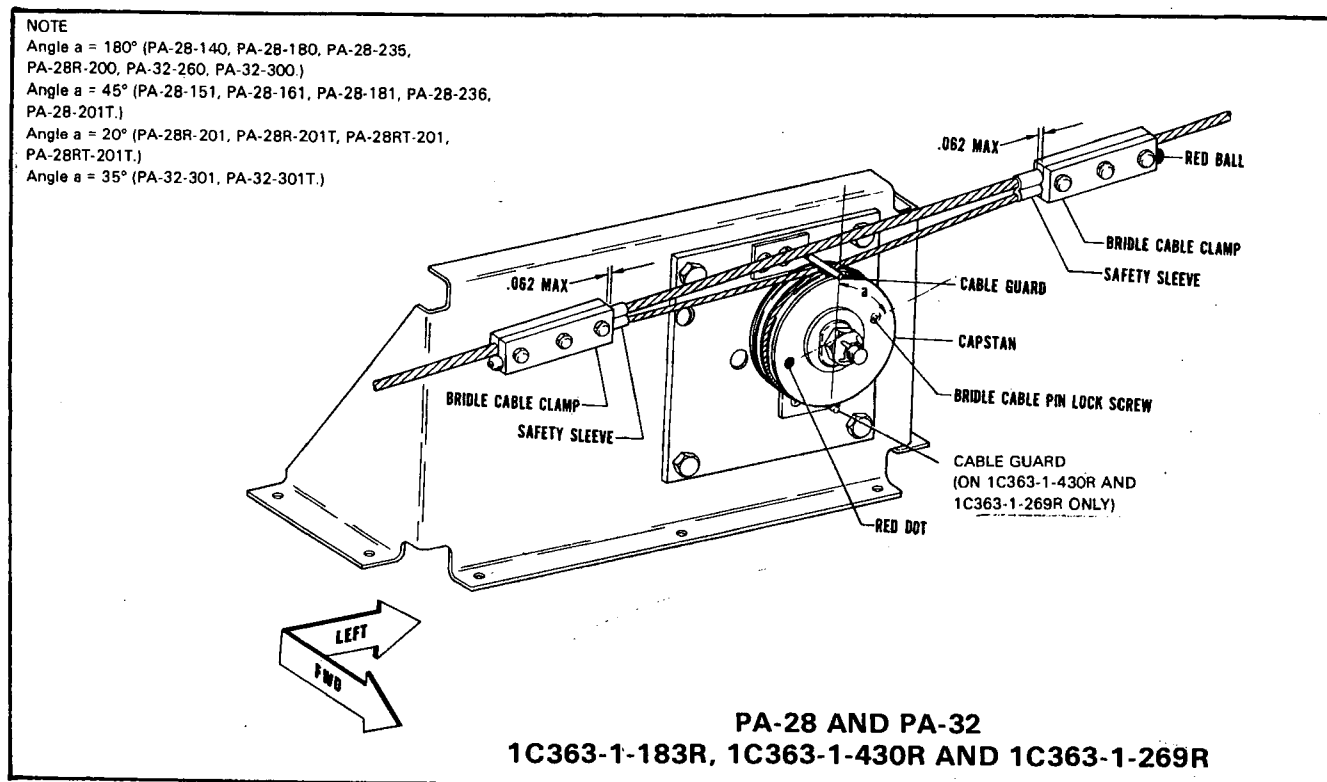

Figure 3-17. Roll Servo Installation (AutoControl III B)
3-16. INSTALLATION OF ROLL SERVO. (PA-28-140, Serial Nos. 28-7525001 and up; PA-28-151, Serial Nos. 28-7515001 and up; PA-28-161, Serial Nos. 28-7716001 and up; PA-28-180, Serial Nos. 28-7505001 and up; PA-28-181, Serial Nos. 28-7690001 and up; PA-28-235, Serial Nos. 28-7510001 and up; PA-28-236, Serial Nos. 28-7911001 and up; PA-28-201T, Serial Nos. 28-7921001 and up; PA-28R-200, Serial Nos. 28R-7535001 and up; PA-28R-201, Serial Nos. 28R-7737001 and up; PA-28R-201T, Serial Nos. 28R-7703001 and up; PA-28RT-201, Serial Nos. 28RT-7918001 and up; PA-28RT-201T, Serial Nos. 28RT-7931001 and up; PA-32-260, Serial Nos. 32-7500001 and up; PA-32-300, Serial Nos. 32-7540001 and up; PA-32-301, Serial Nos. 32-8006002 and up; and PA-32-301T, Serial Nos. 32-8024001 and up.) (Refer to Figure 3-17.)
f. REFER TO FIGURE 3-13 AND CHECK THAT THE CONTROL CABLE TENSION (Z) IS ADJUSTED TO 40 ± 5 POUNDS; (30 +0 -5 POUNDS PA-28-151 SERIAL NOS. 28-7515001 TO 28-7515449 ONLY.) PRIOR TO ATTACHING THE BRIDLE CABLE CLAMPS. Ascertain area on cable where clamp attaches is clean, dry and free of all lubricants and anti-corrosive additives. Attach the bridle cable to the aileron balance cable. The bridle cable is drawn to the aileron balance cable and attached with clamps at the previously painted locations on the balance cable. The longest portion of the bridle cable or the end with the red ball extends outboard toward the left side of the airplane. (Refer to Figure 3-17.) (Should the balance cable not be painted, position the control wheel in neutral and the bridle cable pin, installed in the capstan, as shown in Figure 3-17.) Adjust the bridle cable clamps so the bridle cable tension (Y) is equal to $25 +0 -5$ pounds. Recheck the control cable tension from the bridle cable clamps outward and adjust, if necessary. If the aileron cables require adjustment, it may be necessary to readjust the bridle cable tension. Torque the bridle cable clamp bolts to $55 +5$ inch pounds.